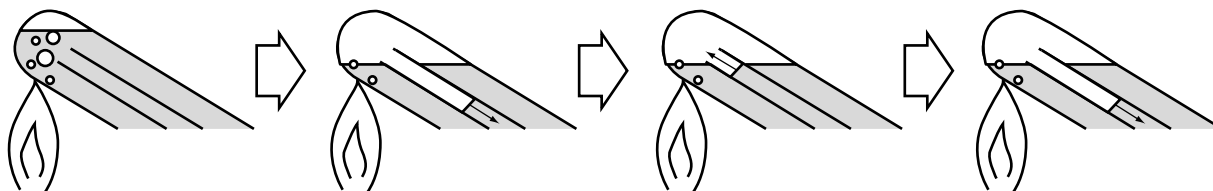

Figure 4.
11. This will draw water from the dish back up into the rounded end of the test tube, and again the water will boil (see Figure 4).